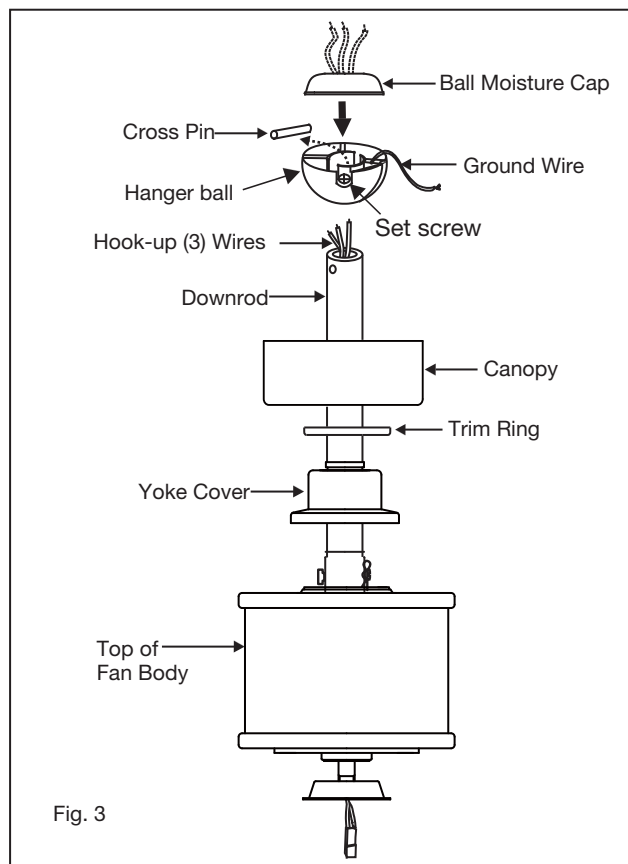

Fig. 3
- 6 Slip the yoke cover, trim ring and canopy onto the downrod. (Fig. 3)
- 8 Feed wires through holes in rubber ball moisture cap and slide cap down over top of ball. (Fig. 3)
A DOWNWARD airflow creates a cooling effect as shown in Figure 3. This allows you to set your air conditioner on a warmer setting without affecting your comfort.